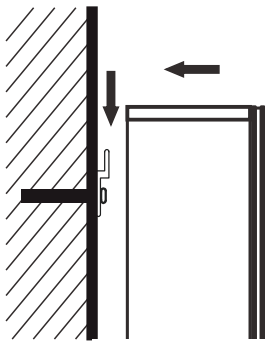
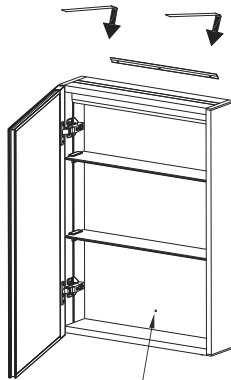

Fig. 3
Fig. 4
- 2.1 Attach the mirror cabinet to the bar as shown in Fig. 3, open the cabinet door, and mark on the wall with a pencil (Fig. 4) through the backplane hole (a).
- 2.3 Repeat the operation as shown in Fig. 3 and mount the mirror cabinet to the bar, make sure that the circuit on the wall is not energized and connect the cabinet's power cord and reserved power cord with the terminal block (Fig. 6). And then tighten the screw on the hole (Fig. 6-b) to fix the cabinet.